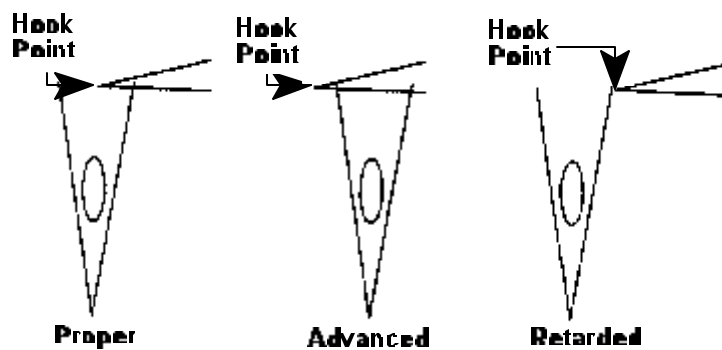

Figure 7
41. Adjust so tip of hook point is behind and in **middle of needle**. See Figure 7.